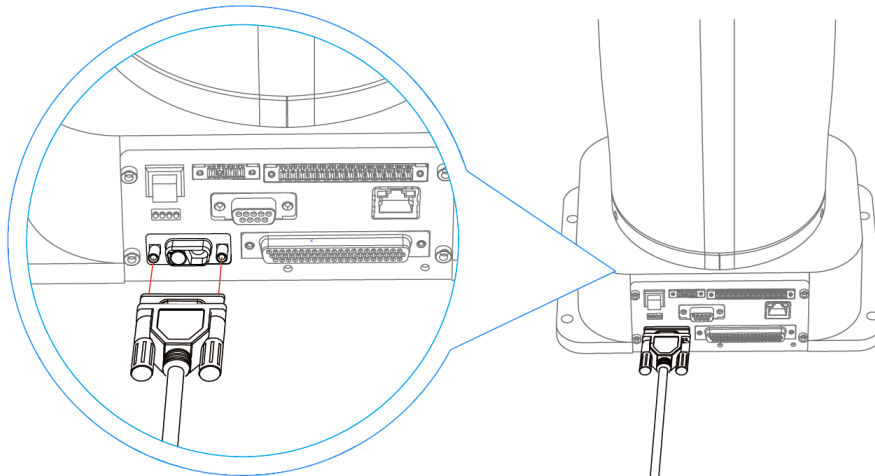

Figure 5.6 Connect to Dobot M1
- Step 3** Connect the other end of the DC power cable to the power interface on the base of Dobot M1, as shown in Figure 5.6.